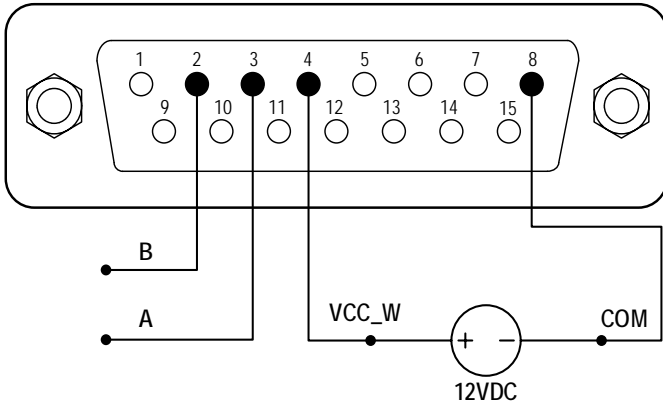

Figure 25. RS485 MODBUS Wiring
- 1) When the power is off, wire the DB15 connector as shown in Figure 25, and connect it to the DB15 port on the rear of the pump. An external DC power source is recommended to avoid electrical interference.